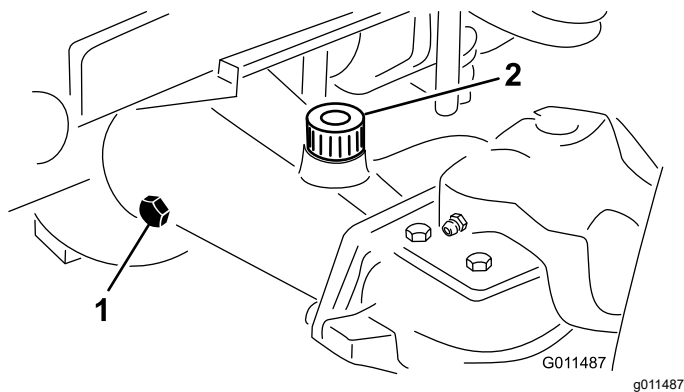

Figure 105
2. Remove a check plug from 1 end of the axle and ensure that the lubricant is up to the bottom of the hole (Figure 105).